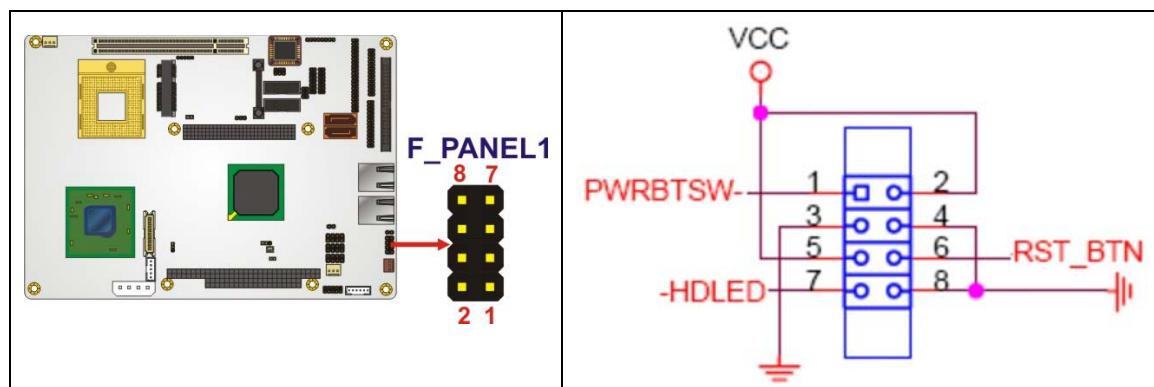

Figure 4-9: Front Panel Connector Pinout Locations
4.2.7 Front Panel Connector (8-pin)**CN Label:** F_PANEL1**CN Type:** 8-pin header (2x4)**CN Location:** See Figure 4-9**CN Pinouts:** See Table 4-9